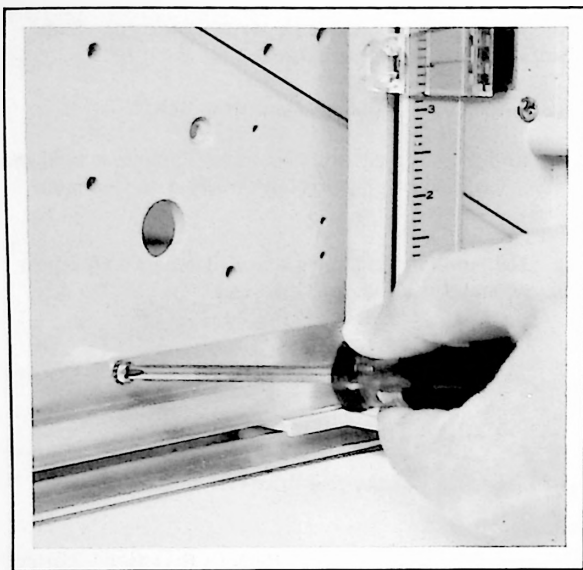

Figure 5-17. X-Axis Alignment Adjustment
b. Loosen three Phillips screws holding paper stop bar after scribing ends of bar to index position. See Figure 5-17. Adjust bar, depending upon initial deviation of pen trace, forward or backward. Use scribed marks as reference.